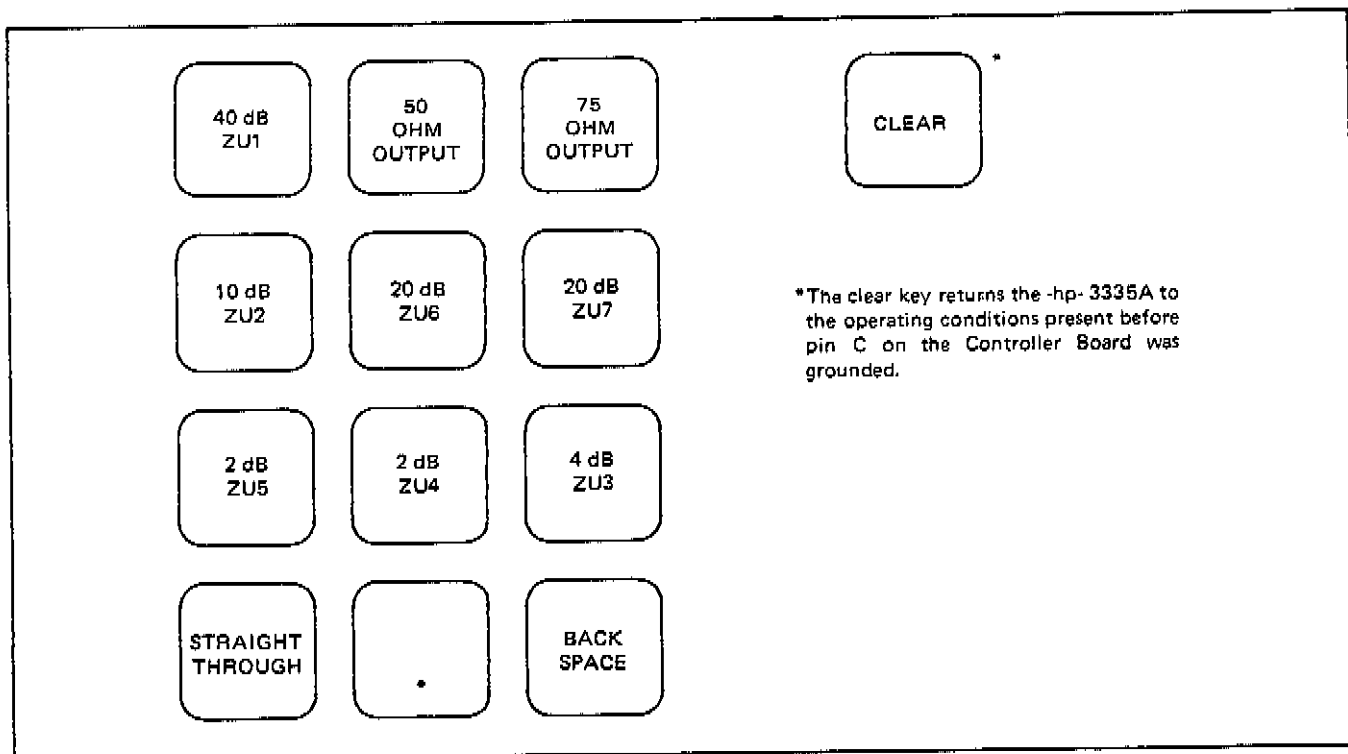

Figure 8-N-4. Attenuator Pads Activated by Digit Keys (Pin C on Controller Board Having Been Momentarily Grounded).
- e. Momentarily ground pin C on the A13 Controller Board (see Figure 8-D-1). With pin C having been grounded, the digits buttons on the front panel will actuate individual latches. Figure 8-N-4 identifies the latch actuated by each digit key.